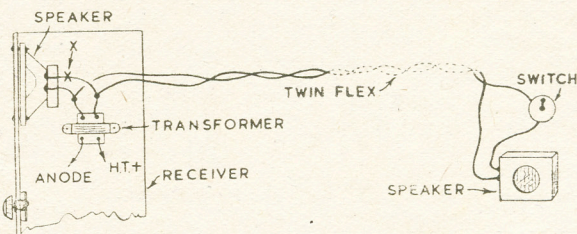

Fig. 2 — Low-impedance extension
If a moving-coil speaker with no coupling transformer is to be used, then the connections shown in Fig. 2 should be adopted. Twin flex is taken from the secondary of the transformer to the extension speaker, a switch again being put in circuit if desired. This switch may be mounted on the speaker cabinet.
If it is required that the extension speaker should operate alone, the speaker in the receiver may be silenced by connecting a switch in the lead at the point marked (X) in Fig. 2. Some receivers have provision for this on the back. Extension Speaker sockets may also be fitted, and this will simplify connections.
leads should, therefore, be used, though twin flex is suitable for Fig. 2, where the impedance is low.